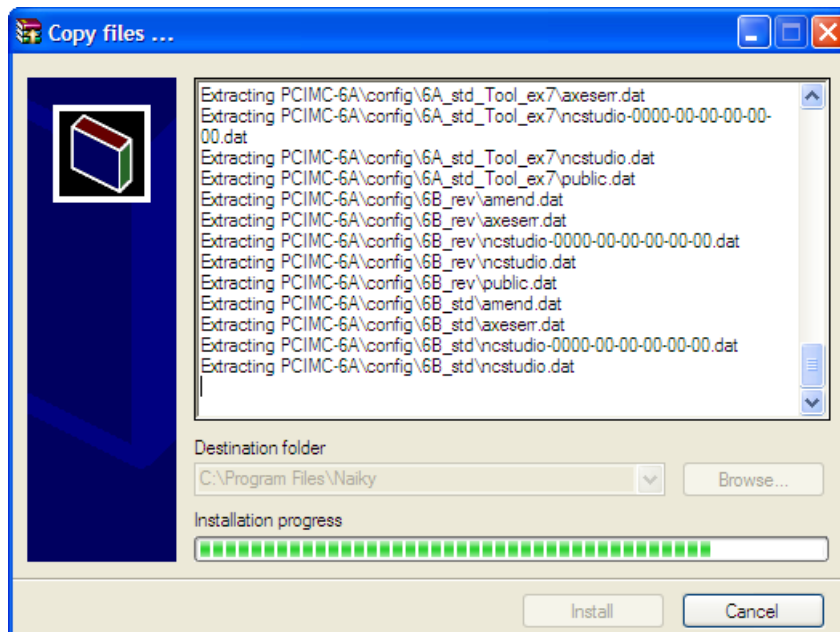
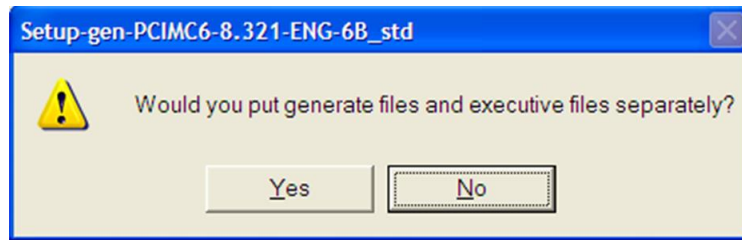
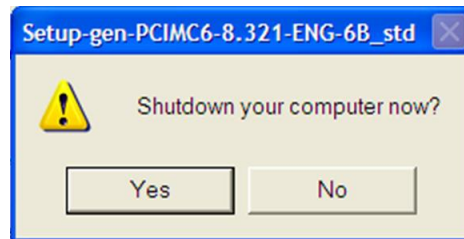

Fig. 2-4 Installing
Fig. 2-5 Prompt for files location ([No] is recommended)
Fig. 2-6 Prompt to shut down the computer ([Yes] is recommended)
- 6) Installation begins. The NcStudio system will be installed in the directory *C:\Program Files\Naiky* by default. Progressing picture is as shown in Fig. 2-4. With that, a dialog will appear to prompt the user to decide whether to put the generated files and the executive files together or separately, see Fig. 2-5. [No] is recommended here. The next dialog to appear is prompting shutdown of the computer for convenience of motion control card installation ([Yes] is recommended), see Fig. 2-6.